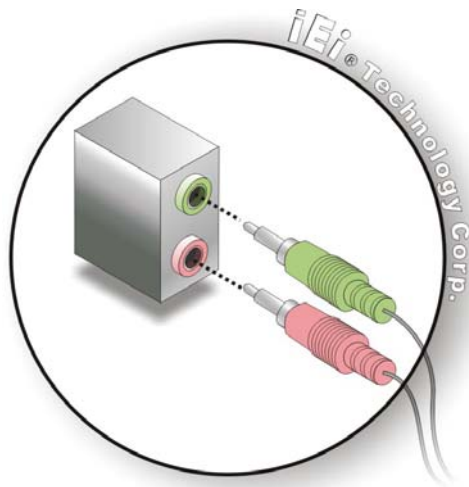

Figure 5-14: Audio Connectors
Step 2: Insert audio phone jack plugs. Insert audio phone jack plugs into the audio phone jacks on the external peripheral interface. See Figure 5-14.